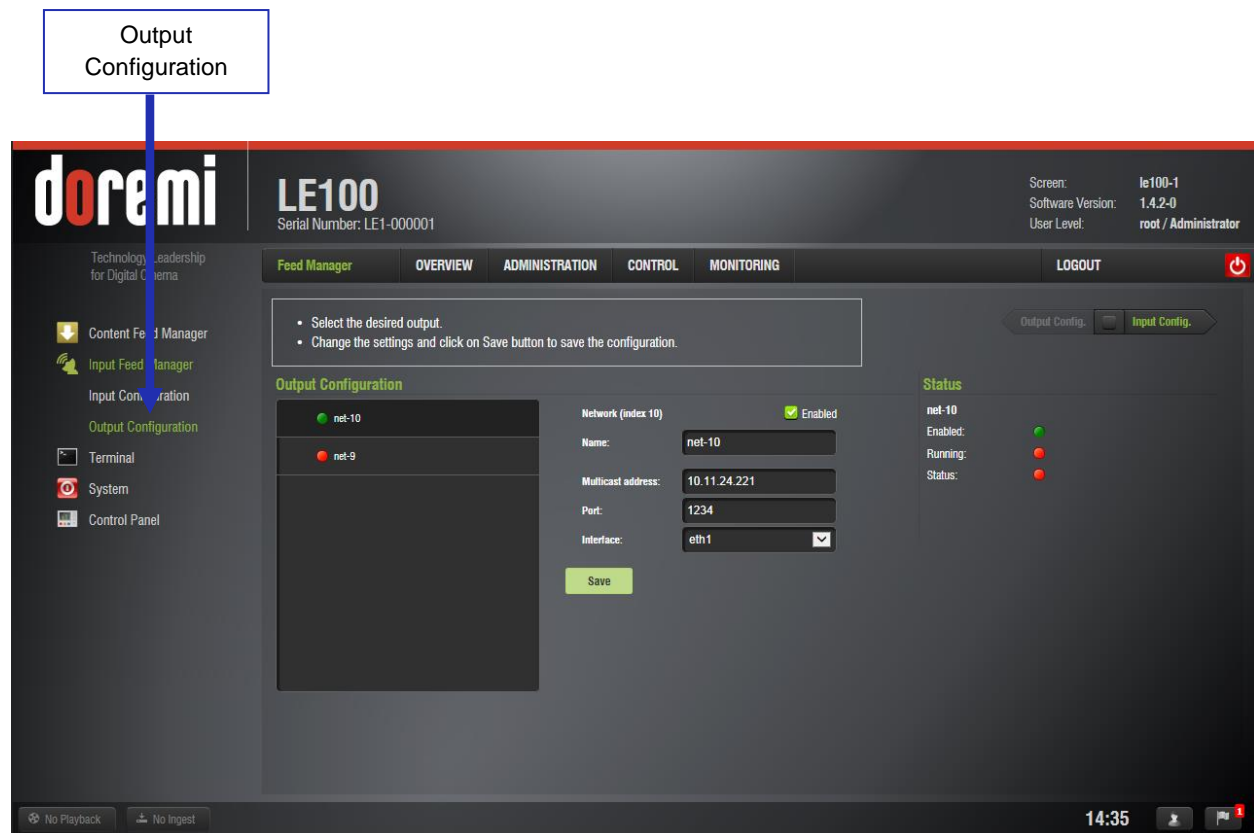

Figure 12: Output Configuration
- Under Output Configuration, select “net-10” or “net-9” (depending on which output you wish to configure) (see Figure 12).